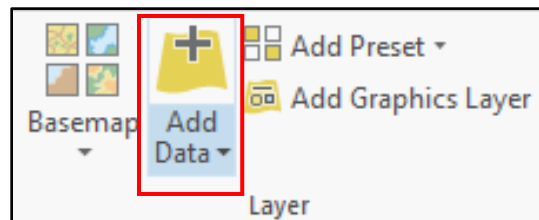

Figure 26
3. In the Map tab, select "Add Data" (Figure 26) and navigate to the folder where the TIFF file is saved. Select the TIFF file and select "OK".